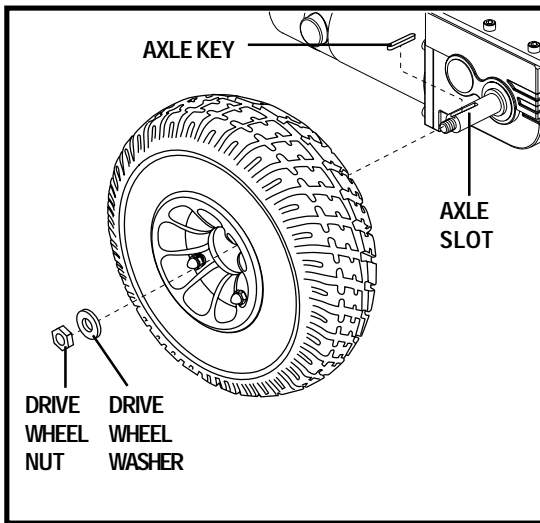

Figure 25. Quantum 610 Drive Wheel
4. Remove the drive wheel nut and washer from the axle. See figure 25.